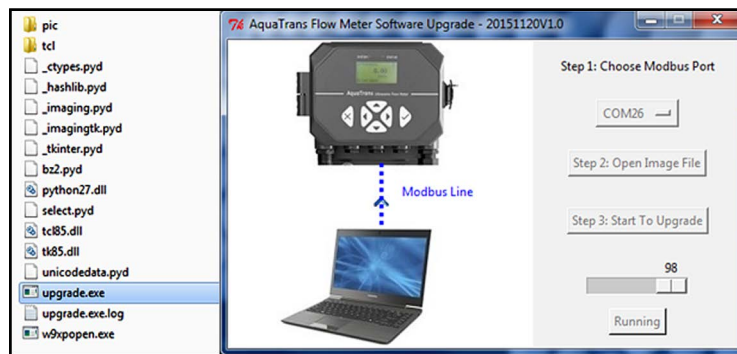

Figure 37: Running the update.exe software
3. Run the update software by clicking on the upgrade.exe file (see figure 37 below). Installation of the software on the PC is not required.